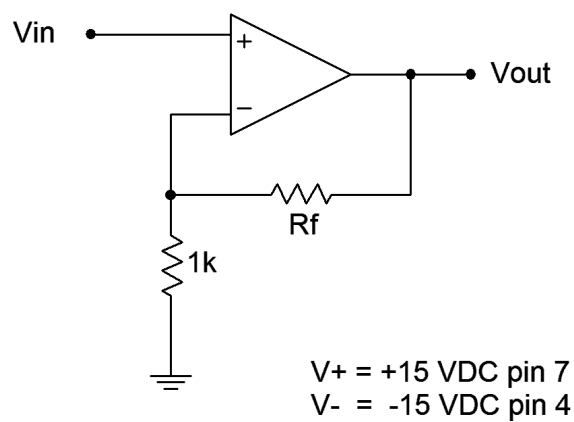

Figure 1
1. The voltage gain of the non-inverting amplifier can be determined accurately from the feedback resistors  $R_i$  and  $R_f$ . Calculate the voltage gains for the amplifier of Figure 1 for the  $R_f$  values specified, and record them in Table 1.
2. Assemble the circuit of Figure 1 using the  $4k7\ \Omega$  resistor.
14. Return to the amplifier of Figure 1 with  $R_f$  set to  $10\text{k}\Omega$ . If available, the LF351 is a good choice for the op amp in this portion. Replace the general purpose generator with the low distortion sine source set to  $1\text{ kHz}$ . Adjust its output level so that the output of the op amp is approximately  $0\text{ dBV}$ .